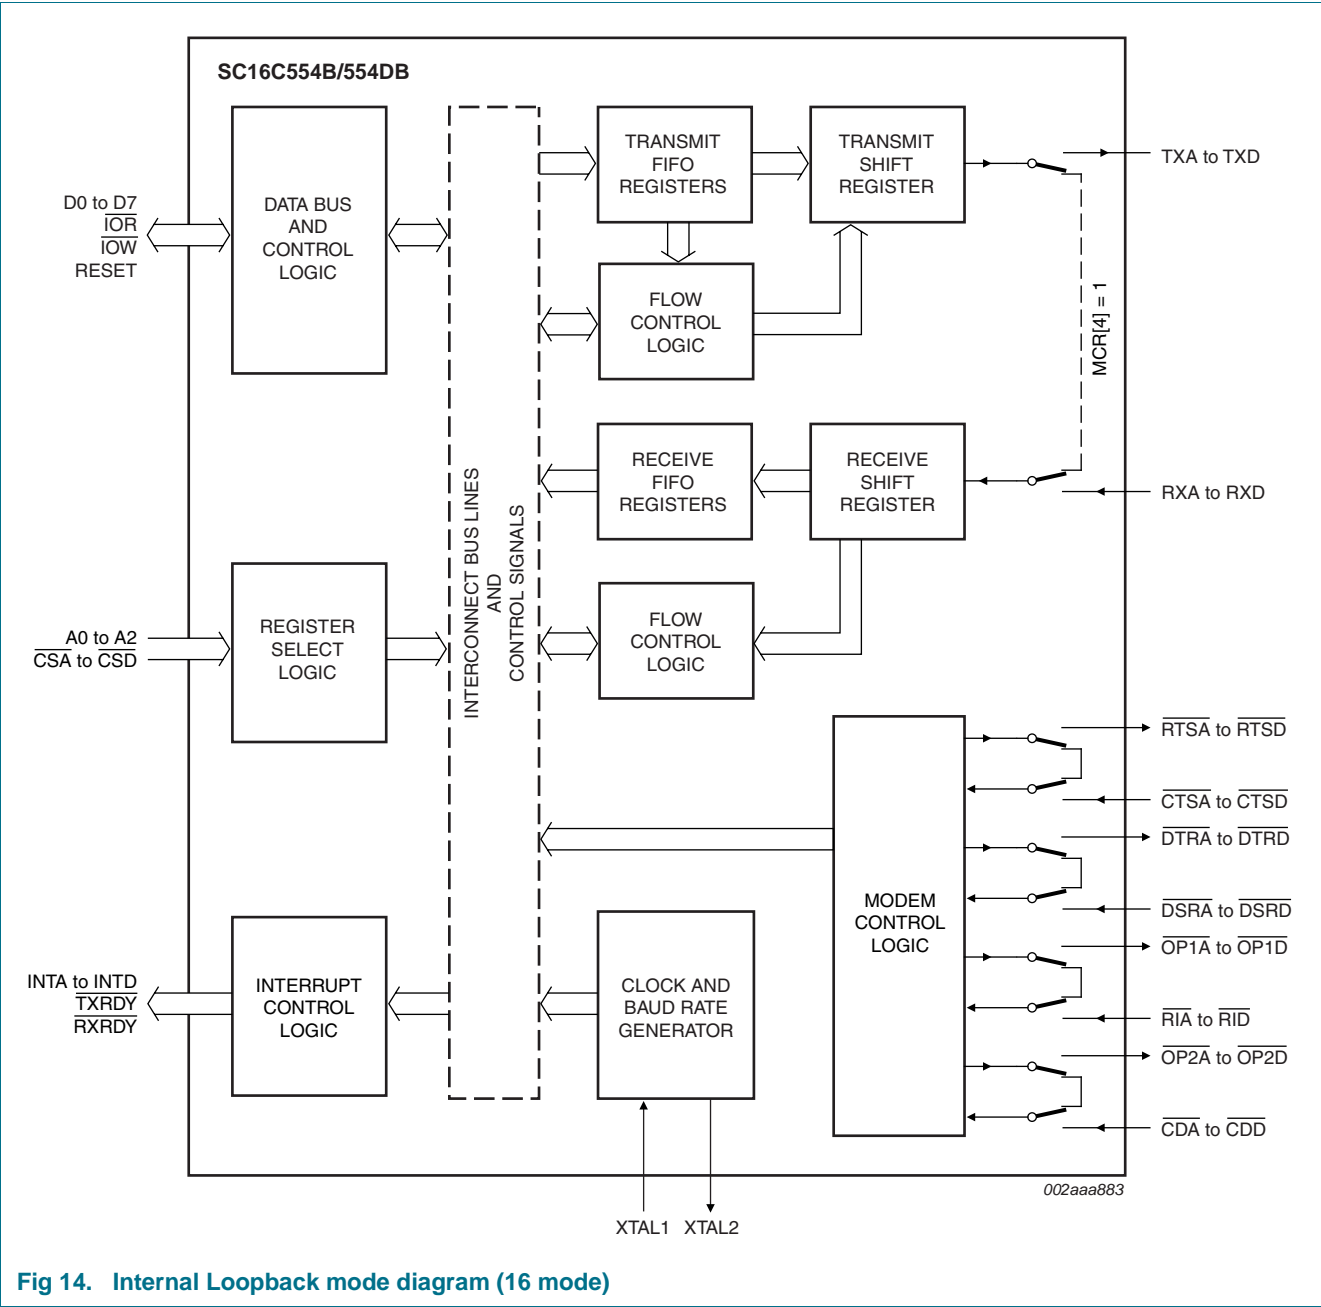

Fig 14. Internal Loopback mode diagram (16 mode)
The internal loopback capability allows on-board diagnostics. In the Loopback mode, the normal modem interface pins are disconnected and reconfigured for loopback internally. MCR[3:0] register bits are used for controlling loopback diagnostic testing. In the Loopback mode,  $\overline{\text{OP2}}$  and  $\overline{\text{OP1}}$  in the MCR register (bits 3:2) control the modem  $\overline{\text{RI}}$  and  $\overline{\text{CD}}$  inputs, respectively. MCR signals  $\overline{\text{RTS}}$  and  $\overline{\text{DTR}}$  (bits 1:0) are used to control the modem  $\overline{\text{CTS}}$  and  $\overline{\text{DSR}}$  inputs, respectively. The transmitter output (TX) and the receiver input (RX) are disconnected from their associated interface pins, and instead are connected together internally (see Figure 14). The  $\overline{\text{CTS}}$ ,  $\overline{\text{DSR}}$ ,  $\overline{\text{CD}}$ , and  $\overline{\text{RI}}$  are disconnected from their normal modem control input pins, and instead are connected internally to  $\overline{\text{RTS}}$ ,  $\overline{\text{DTR}}$ ,  $\overline{\text{OP2}}$  and  $\overline{\text{OP1}}$ . Loopback test data is entered into the Transmit Holding Register via the user data bus interface, D0 to D7. The transmit UART serializes the data and passes the serial data to the receive UART via the internal loopback connection. The receive UART converts the serial data back into parallel data that is then made available at the user data interface D0 to D7. The user optionally compares the received data to the initial transmitted data for verifying error-free operation of the UART TX/RX circuits.